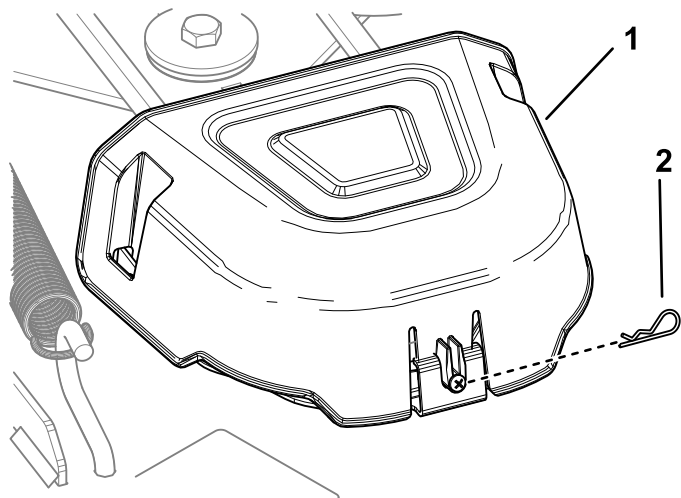

Figure 48
4. Remove the hairpin cotter and push in the tab on the cover to remove the pulley covers (Figure 48).